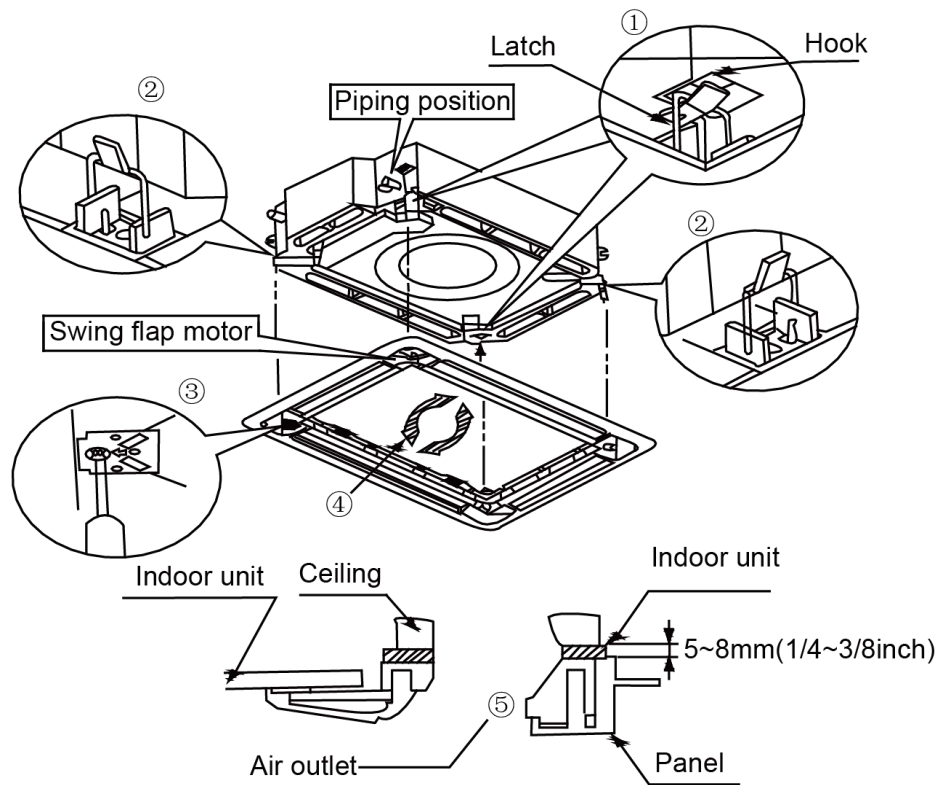

Figure 3-1-45
- (2) Place the panel at the unit, and latch the hooks beside and opposite the swing flap motor.
- (3) Latch other two hooks.
- (4) Tighten four hexagonal screws under the latches about 15mm.
- (5) Adjust the panel along the direction indicated by the arrow as shown in Figure 3-1-45.
- (6) Tighten the screws until the thickness of the sealing material between the panel and the indoor unit reduces to 5-8cm.